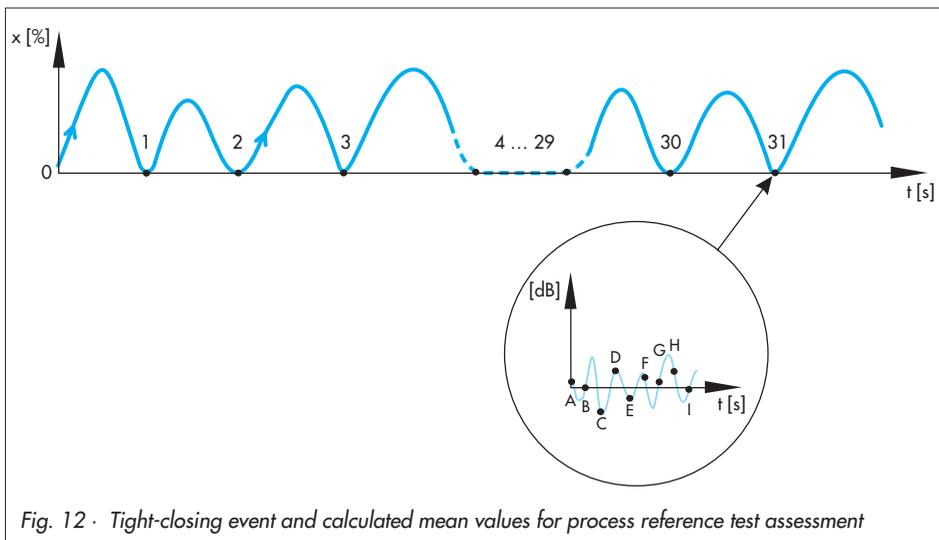

Fig. 12 · Tight-closing event and calculated mean values for process reference test assessment
- ▶ **Very quick:** The mean value calculated from the current sound level and from the last four sound levels measured while the valve is tightly shut is used for monitoring (Fig. 12: Tight-closing event 31 and sound level E to I).
- ▶ **Quick:** The mean value calculated from all sound levels measured while the valve is tightly shut is used for monitoring (Fig. 12: Tight-closing event 31 and sound level A to I).
- ▶ **Slow:** The mean value calculated from the last thirty sound levels measured during short-term monitoring (refer to section 9.2) is used for monitoring (Fig 12:
- ▶ **Very slow:** The mean value calculated all the sound levels measured during long-term monitoring (refer to section 9.3) is used for monitoring (Fig. 12: Tight-closing event 1 to Tight-closing event 31 with all sound levels).